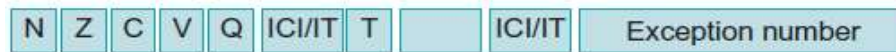

Figure 16: PSR and Status Flags
Now, time to think in terms of assembly code and registers. The program status register (PSR) in the Cortex-M processor contains several CPU status-flags that indicate conditions raised during code execution (ex: "r5 - r5" will raise a zero flag). Fig. 16 presents the Cortex M3's PSR. The most important bits to note for this lab are the N (Negative), Z (Zero), C (Carry), V (oVerflow) and If Then (IT) flags. As learned in various lectures and courses, these status flags are essential for branching and general control-flow execution. The Cortex-M family invokes several conditional branching techniques to minimize branch penalties for performance efficiency. One of the primary techniques used is fetching instructions through speculation, using the PSR and compiler optimization.